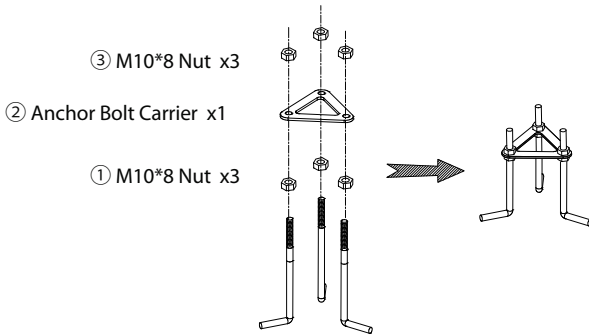

Fig 1
2. Get the anchor bolt carrier assembled as Fig. 1 and use it to determine placement of anchor bolts in concrete.